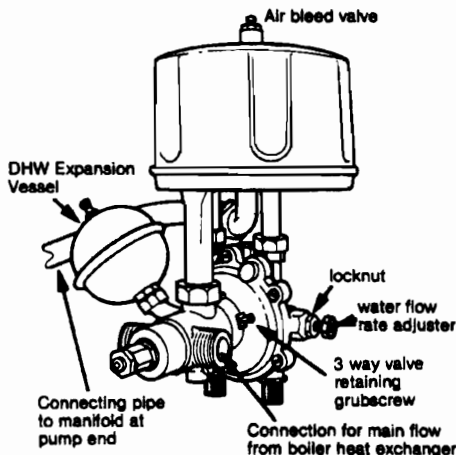

Fig. 39
Refer to figs 39, 40 and 41
8.16.9 Disconnect 4 union nuts (fig. 39).
Refer to figs. 39 & 40